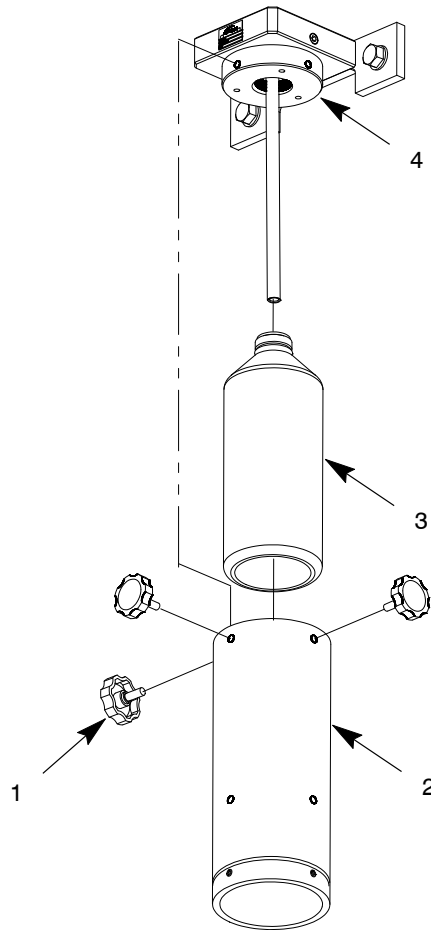

Figure 3 Installing an Ink Bottle
1. See Figure 3. Remove the thumb screws (1) securing the shroud (2) to the manifold (4).
2. If installed, remove the old ink bottle (3).